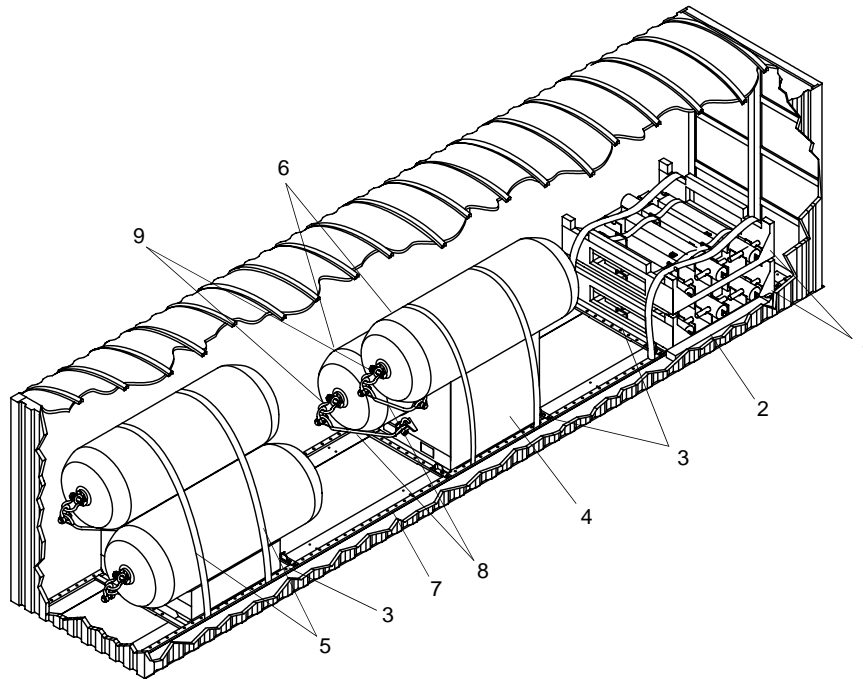
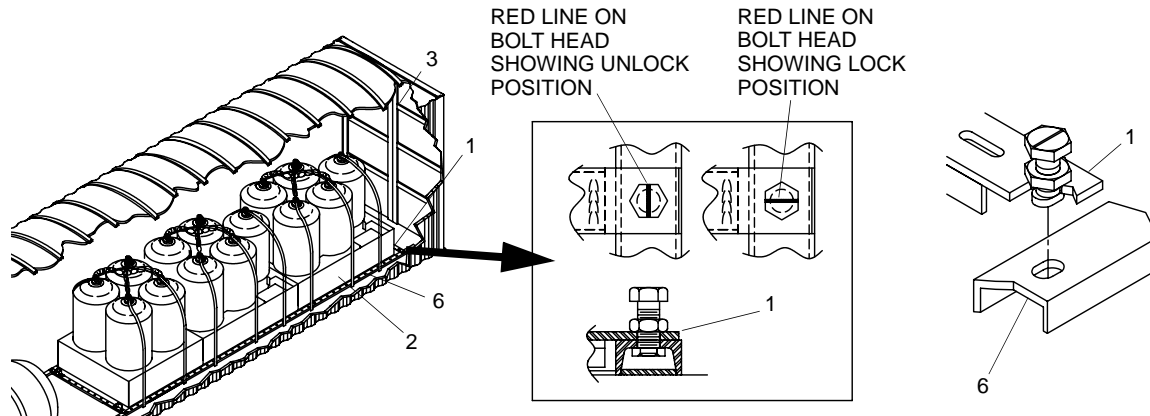

Figure 18. 4 ft by 12 ft Fender Container
Figure 21. Track Stop
6. Remove mooring bitt pallets (figure 18, item 1). (See “Unpacking Mooring Bitts,” in this WP.)
7. Remove forklift push-pull rod (figure 18, item 2).
8. Remove the track stops (figure 18, item 3) in front of first fender pallet (figure 18, item 4). (See also figure 21.)
9. Remove two tie down straps (figure 18, item 5) securing pallet (figure 18, item 4) and fenders (figure 18, item 6) to track (figure 18, item 7).
10. Disconnect straps (figure 18, item 8) from fenders shackles (figure 18, item 9) securing fenders (figure 18, item 6) to pallet (figure 18, item 4).
11. Using forklift and push-pull rod (figure 18, item 2), move first pallet (figure 18, item 4) toward front of container so pallet will clear center ceiling bow when pallet is lifted.
12. Using crane, slings and shackles, lift fenders (figure 18, item 6) from first pallet (figure 18, item 4) and move to installation location on FC pierhead.
14. Attach fenders (figure 18, item 6) to FC as required.
15. Roll fender (figure 18, item 6) over side of FC pierhead into water.
16. Using forklift and push-pull rod (figure 18, item 2), position empty pallets (figure 18, item 4) in container, making sure to install track stops (figure 18, item 3) as pallets are loaded.
17. Secure pallets (figure 18, item 4) to track (figure 18, item 7) with two tie down straps (figure 18, item 5).
All removable track stops in fender containers are secured as shown in figure 21.
6. Remove track stop (figure 21, item 1) from in front of fender pallet (figure 21, item 2) nearest container (figure 21, item 3) doors.
11. Remove track stop (figure 21, item 1) in front of 5 ft by 10 ft fender pallet (figure 22, item 7).
21. Install track stop (figure 21, item 1) in front of 5 ft by 10 ft fender pallet (figure 22, item 7).
23. Install track stop (figure 21, item 1) at red marks for 3 ft by 5 ft fender pallets (figure 22, item 5).
28. Install track stop (figure 21, item 1) in front of 3 ft by 5 ft fender pallet (figure 22, item 2) closest to container door.